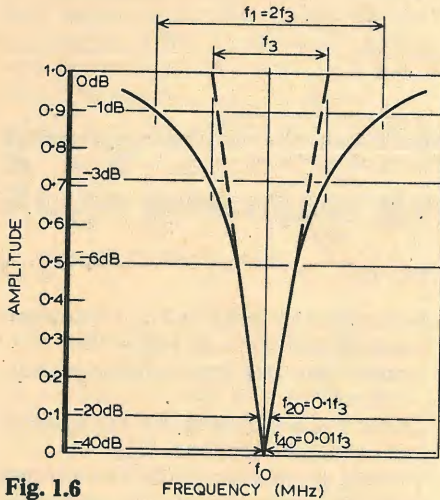

Fig. 1.6
Next, the filter 3dB insertion loss bandwidth  $f_3$  is to be determined from Fig. 1.6 (appendix A, Fig. A.1; see also ref. 10 page 226).
The filter notch width is proportional to the amplitude response (Fig. 1.6). The filter requirement is that at -40dB loss the width is to be  $f_{40} = 0.08MHz$ .
From Fig. 1.6,  $f_{40} = 0.01 \times f_3$ , thus  $f_{40} \times 100 = 0.08 \times 100 = 8MHz$ . The 3-dB points are  $32 \pm 4, 28$  and  $36MHz$ .